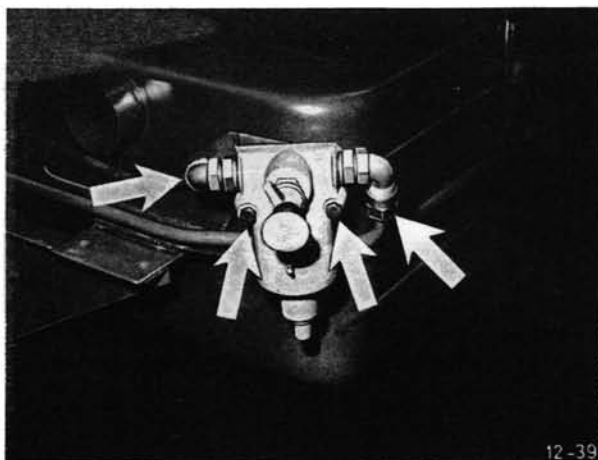

Fig. 42-7/7
1. Unscrew cap of overpressure bottom valve. Fig. 42-7/6.